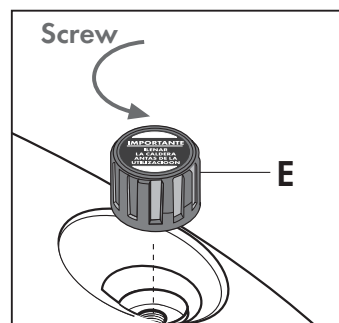

Fig. 28
- a) Remove the boiler cap (E) (Fig. 28)